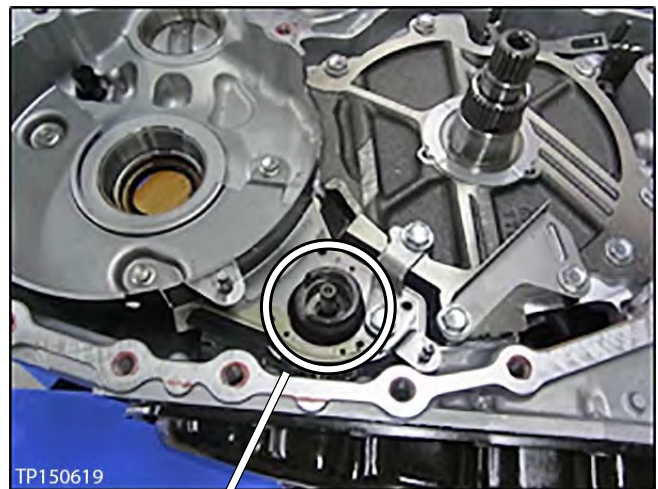

Figure 74
11. Install a new snap ring in the new oil pump (see Figure 74 and 75).